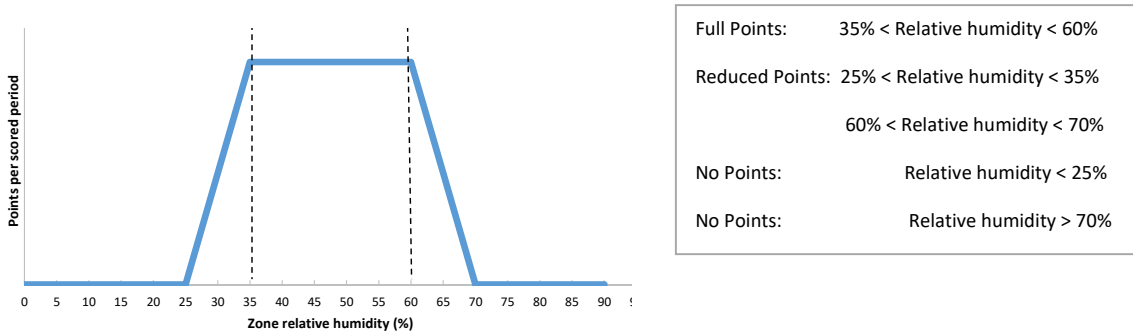

Figure 8: Humidity sub contest point distribution
- Reduced points are earned if the time-averaged interior relative humidity keeps between 25% and 35% or between 60.0 % and 70.0 %. Reduced points values are scaled linearly, as shown in Figure 8.